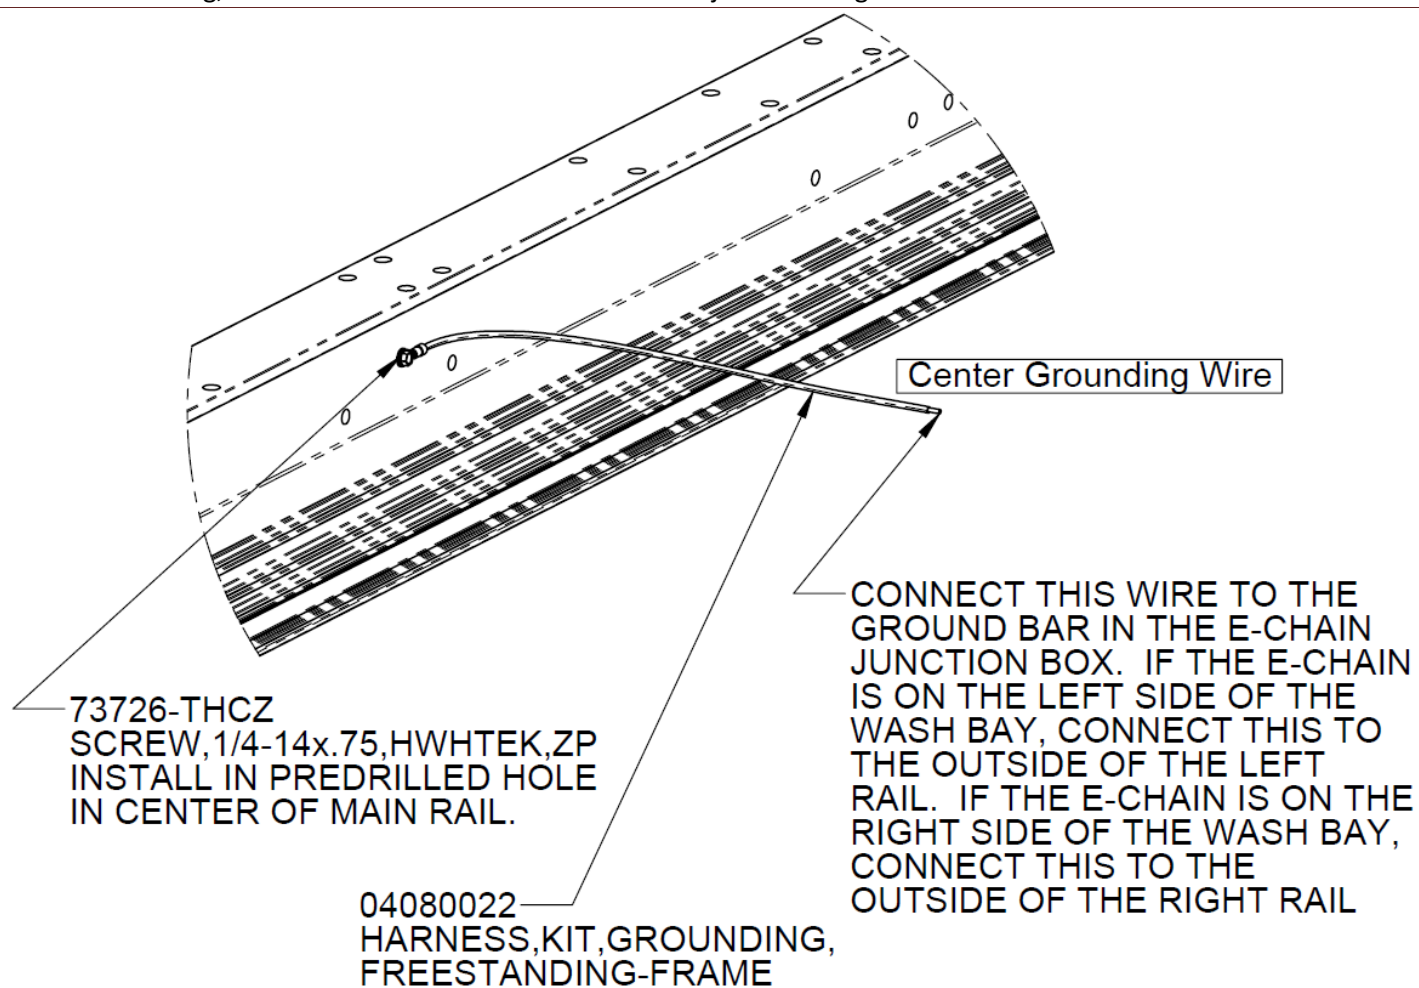

Figure 47 - Install Center Grounding Wire for 4-Legged Frame
- Attach the ground wire included in the kit between the center of the rail closest to the e-chain junction box and the terminal shown to make a permanent earth ground (PE) to ensure proper frame grounding (Figure 47 and Figure 48).